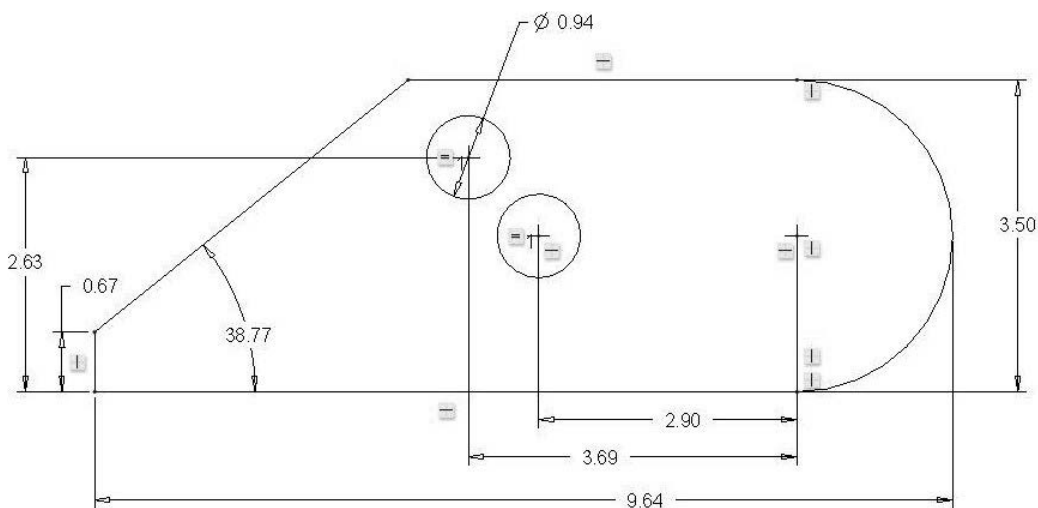

Figure 3-22 Add Dimensions
Step 8: Use  to dimension the sketch according to design intent. The first step is to dimension the figure per design intent as shown in Figure 3-22. Don't worry about the value of the dimensions yet.